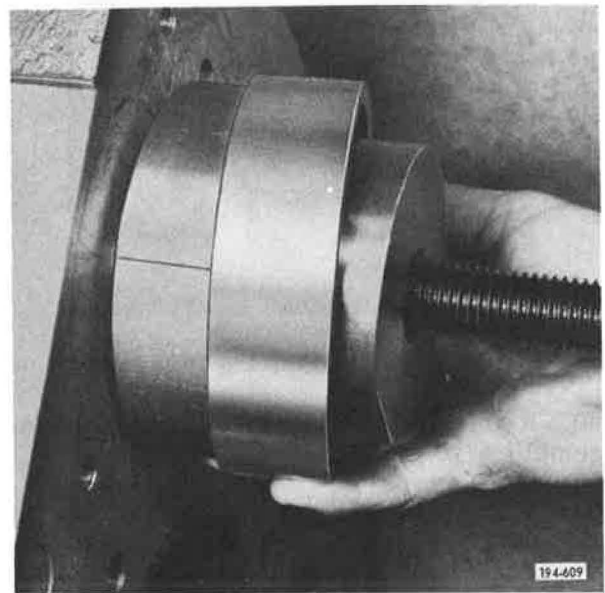

Figure 5-285. Installing Sleeve
17. Slide the sleeve over the assembly to secure the two clamping halves together. See Figure 5-285.